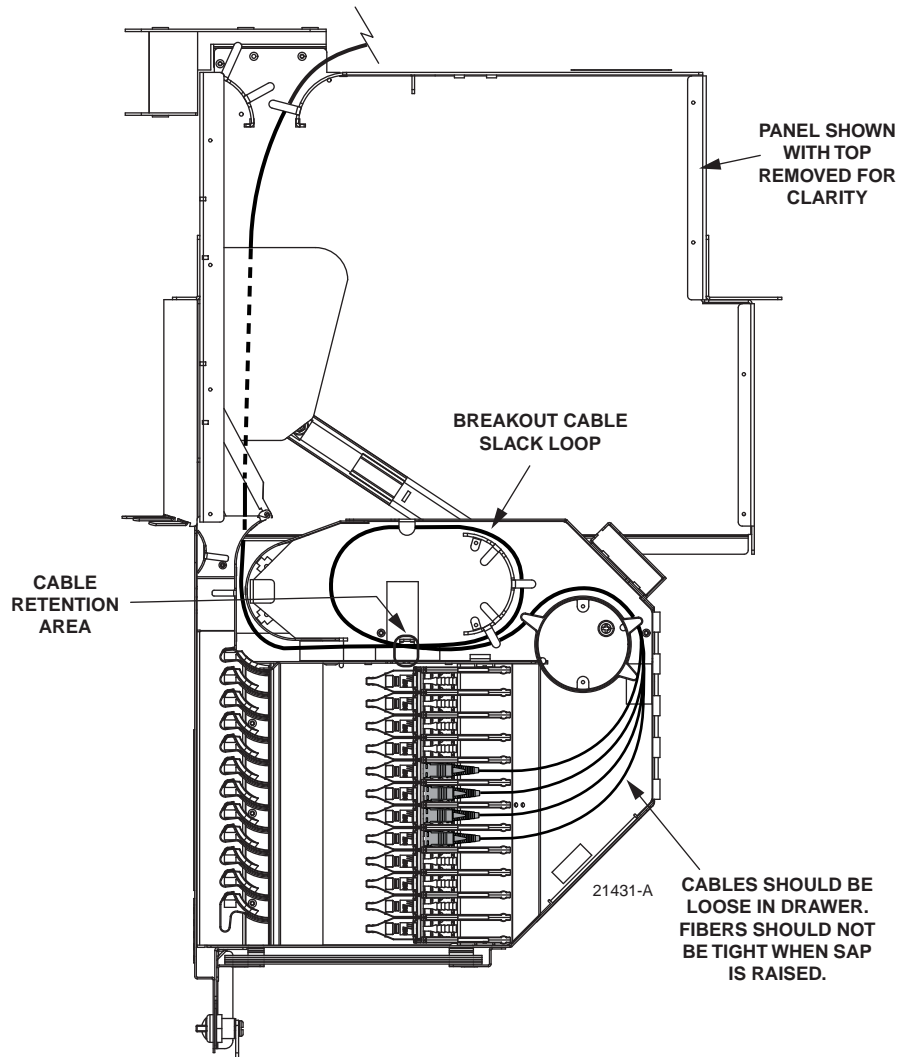

Figure 36. Breakout Cable Routing Within Standard Termination Panel
7. Route the cable fibers within the drawer as shown in Figure 36.
10. Secure the cable to the drawer at the cable retention area using the O-ring provided with the panel. Refer to Figure 36 for details.